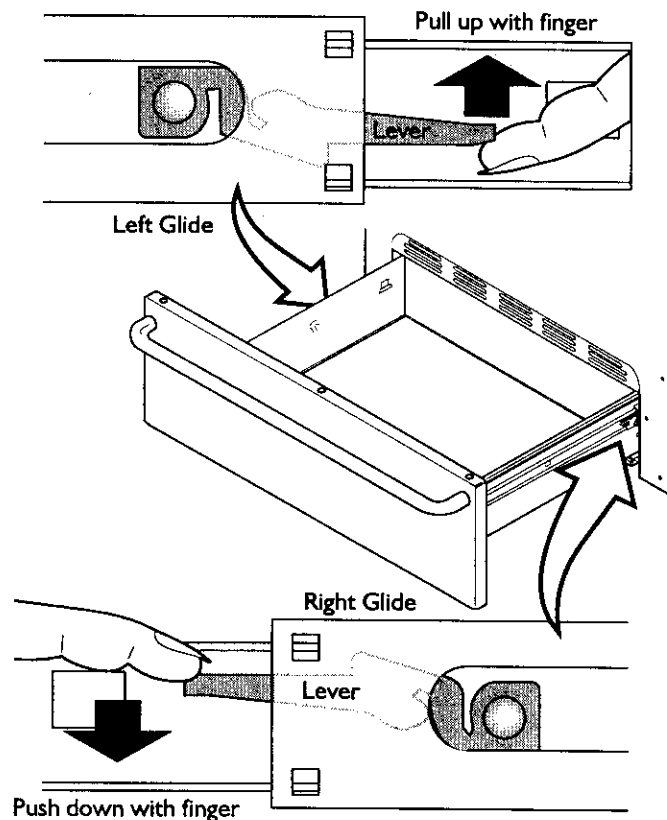

FIGURE 1
- Locate glide lever on each side of drawer, pull up on the left glide lever and push down on the right glide lever (see figure 1).